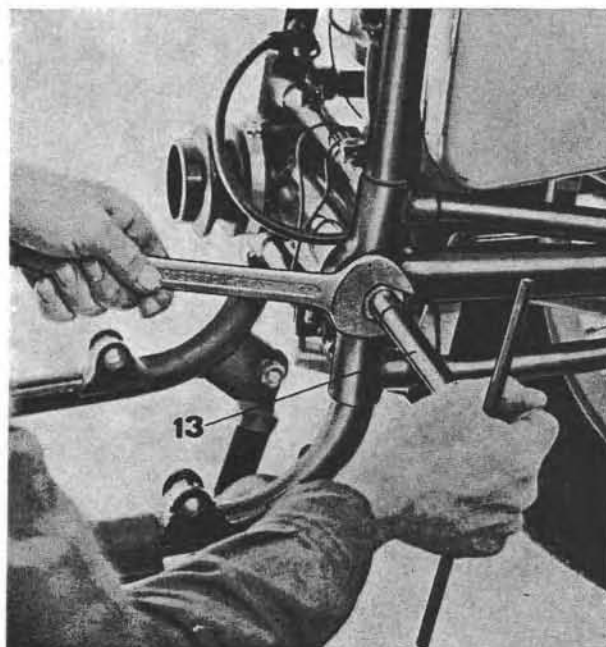

Fig. 108
- tighten locknuts allowing fork to swing freely. Use special wrench No. 12903000 (see 13 on Fig. 108) and open wrench to hold locknut.